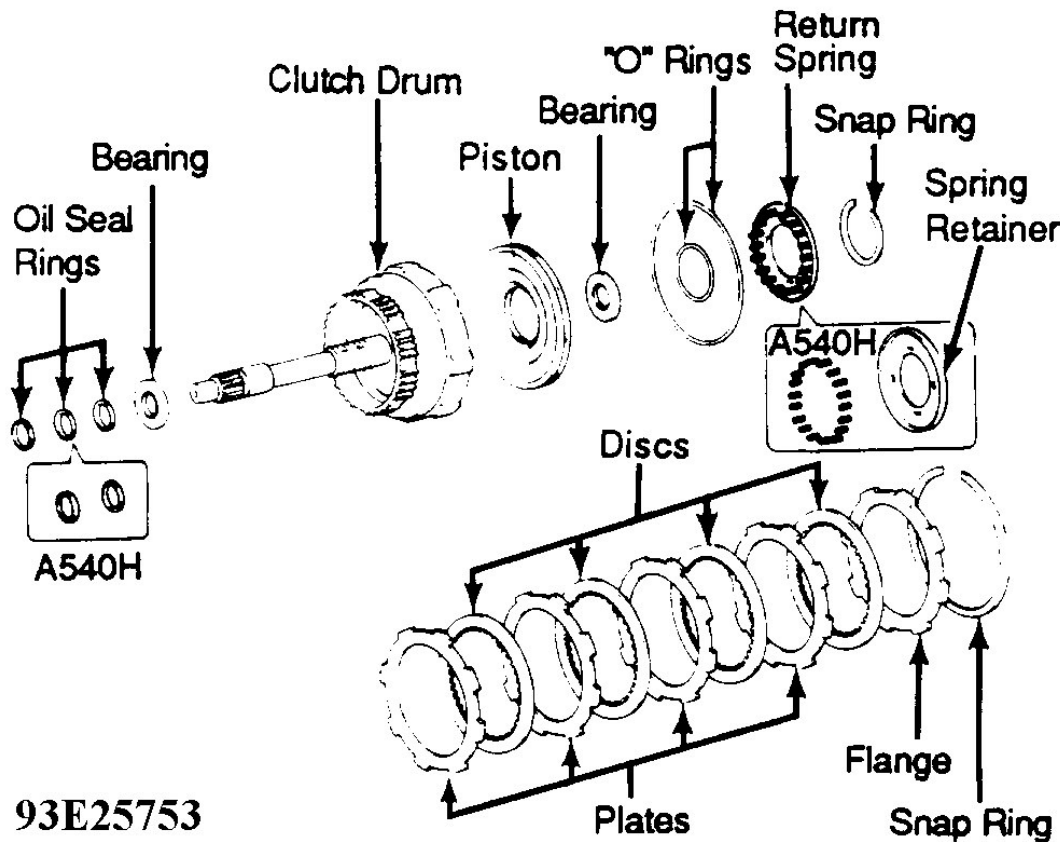

Fig. 22: Exploded View Of Forward Clutch
2. Remove snap ring from clutch drum. See **Fig. 22**. Remove flange, discs and plates. Place Compressor Block (09351-32070) on spring retainer.
1. Coat NEW "O" rings with ATF. Install "O" rings on piston. See **Fig. 22** . Press piston into drum with cup side up. Ensure "O" ring is not damaged.